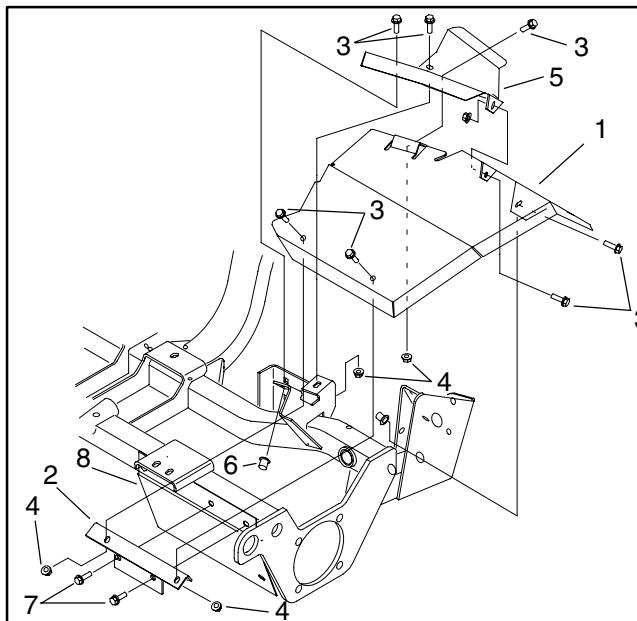

Figure 10
4. Remove left fender and fender bracket from the radiator side of the frame (Fig. 10).
6. Remove cap screws and flange nut securing the left footrest to the frame (Fig. 10). Remove the left foot rest from the machine.